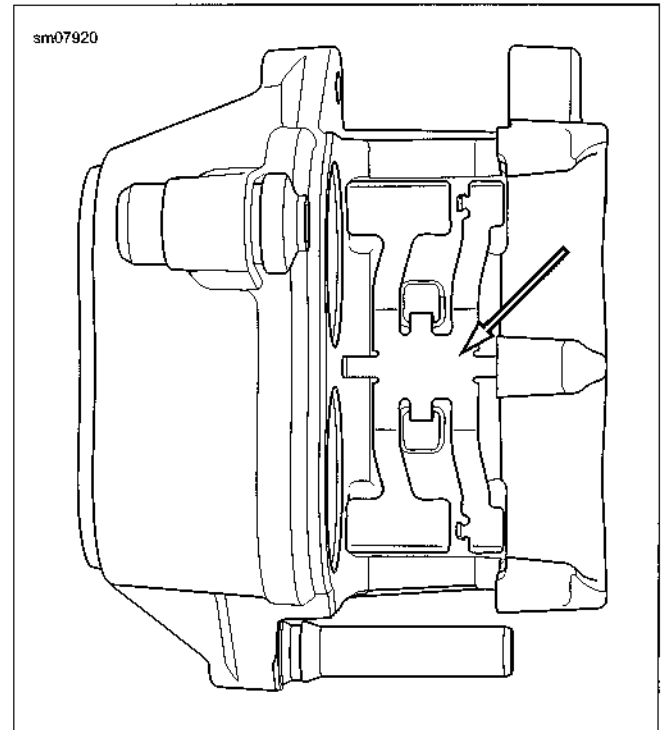

Figure 2-60. Caliper Pad Spring
5. See Figure 2-60. Install pad spring in channel. Press firmly into place.